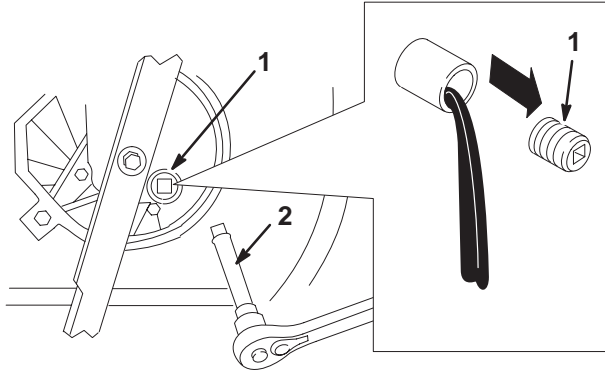

Figure 12
- Remove the oil drain plug, return the lawn mower to its operating position, and allow the oil to drain into the drain pan (Fig. 12).